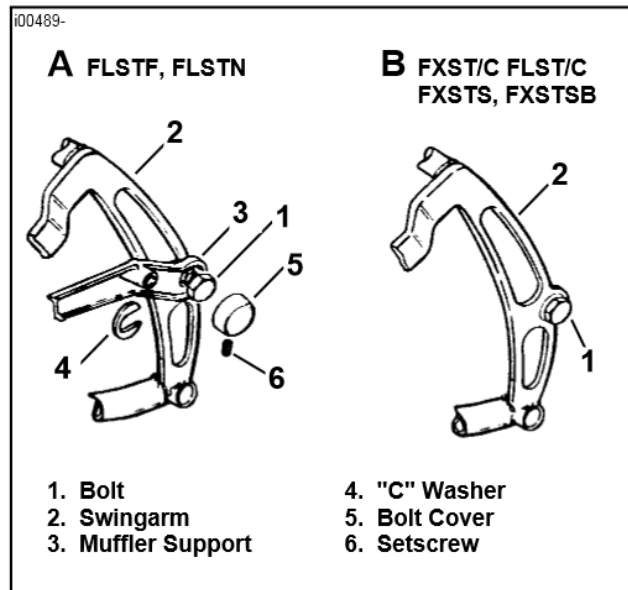

Figure 1. Swingarm Bolt Mounting
1. See Figure 1, Views A and B. On left side of vehicle, place bolt cover (5) over head of nut (1). Install and tighten setscrew (6) at or near bottom of bolt cover.
3. See Figure 1, View A.